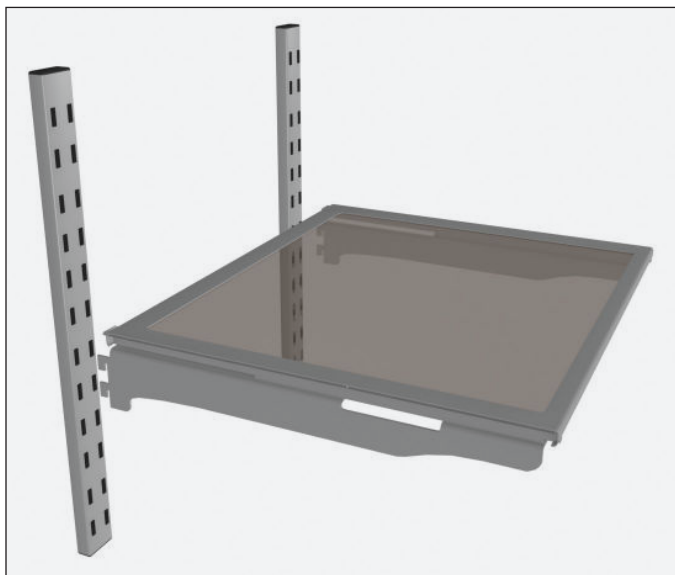

FIG. 1. Slide the mounting bracket tabs into the pilaster.
Hook the mounting brackets / glide assemblies into the pilasters. See fig. 1.
Carefully lift the shelf assembly up. Then, pull the shelf assembly forward. See fig. 1.
1. Gently lift the wine rack handle and pull the wine rack forward. See fig. 1.